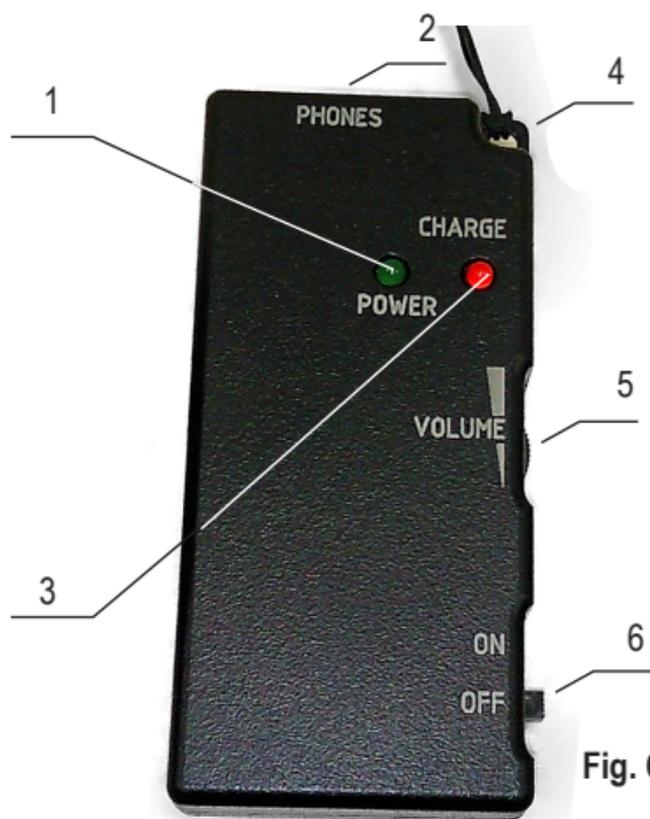

Fig. 6.
4.6. Wireless telephones consist of a receiving device and earphones. Appearance of the receiving device and positions of control units are shown in Fig.6